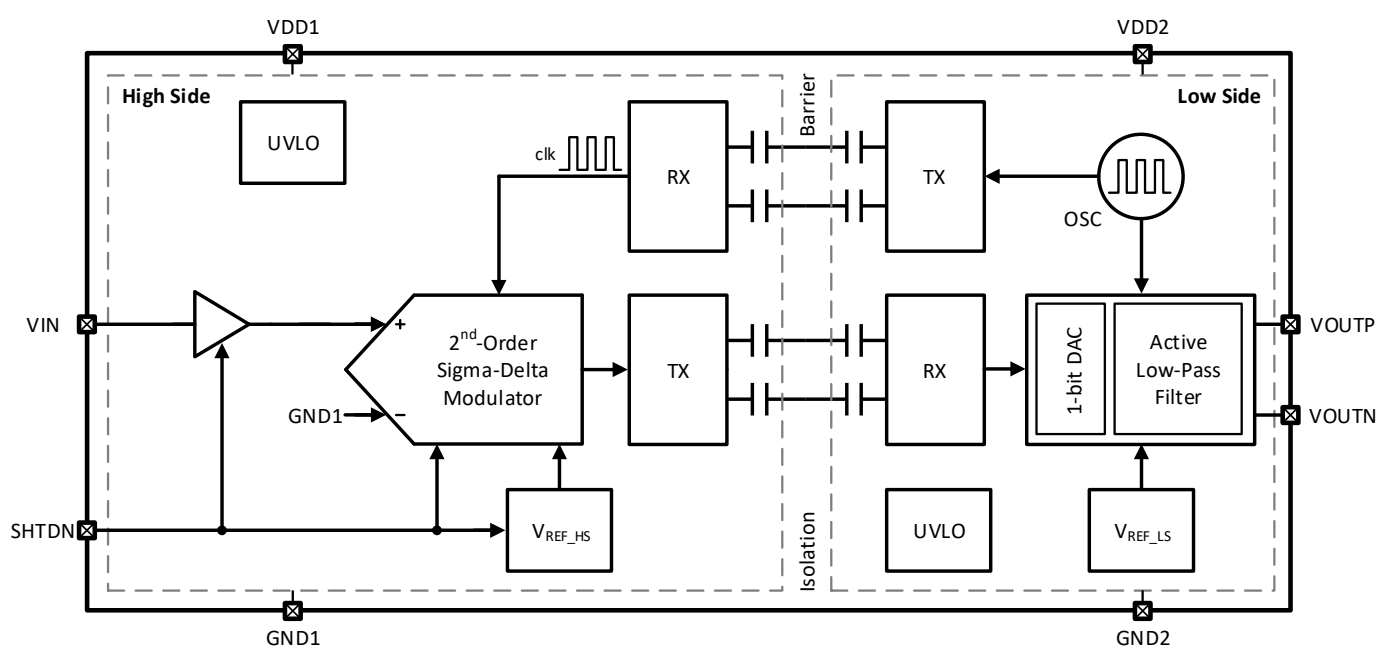

Figure 9-1 Functional Block Diagram of CA-IS1311
The CA-IS1311 devices are high-precision reinforced isolated amplifiers designed for voltage sensing. The functional block diagram of this device is shown in Figure 9-1. At high side, the high input-impedance buffer drives a 2nd-order Sigma-Delta ($\Sigma\Delta$) modulator. This modulator converts the analog signal to a digital bitstream. For transmission across the SiO₂-based isolation barrier, the digital stream is further modulated with a high-frequency carrier using a simple on-off keying (OOK) modulation scheme. The receiver (RX) recovers the modulated signal to the original digital bitstream at low side. After processed by a 1-bit digital-to-analog converter (DAC), the digital bitstream is sent to an active low-pass filter to produce the analog output. For synchronization of the whole chip, the clock is generated at low side and sent back to high side ensuring that all clocks come from one source.